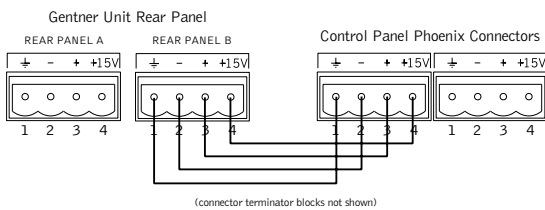

Figure 3. RS-485 Phoenix Connector
Step 1 Ensure you received a fascia plate; a Control Panel assembly with mounting bracket and two RS-485 Phoenix four-pin connectors; two connector terminator blocks; a faceplate; two flat HD screws; two pan-head screws; and an electrical wall box. Refer to Figures 3, 4, and 5 for depictions of these parts. If any parts are missing, please contact Gentner.
Step 4 Plug a connector terminator block into one of the PSR1212's Remote Panel connectors. Next, connect a Cat 5 twisted-pair cable to the connector terminator block. Referring to Figure 3, use one twisted wire pair for the center - and + connections (pins 2 and 3) and the other twisted pair for the ground and +15V connections (pins 1 and 4). Failure to do so can result in incorrect control and status due to crosstalk.